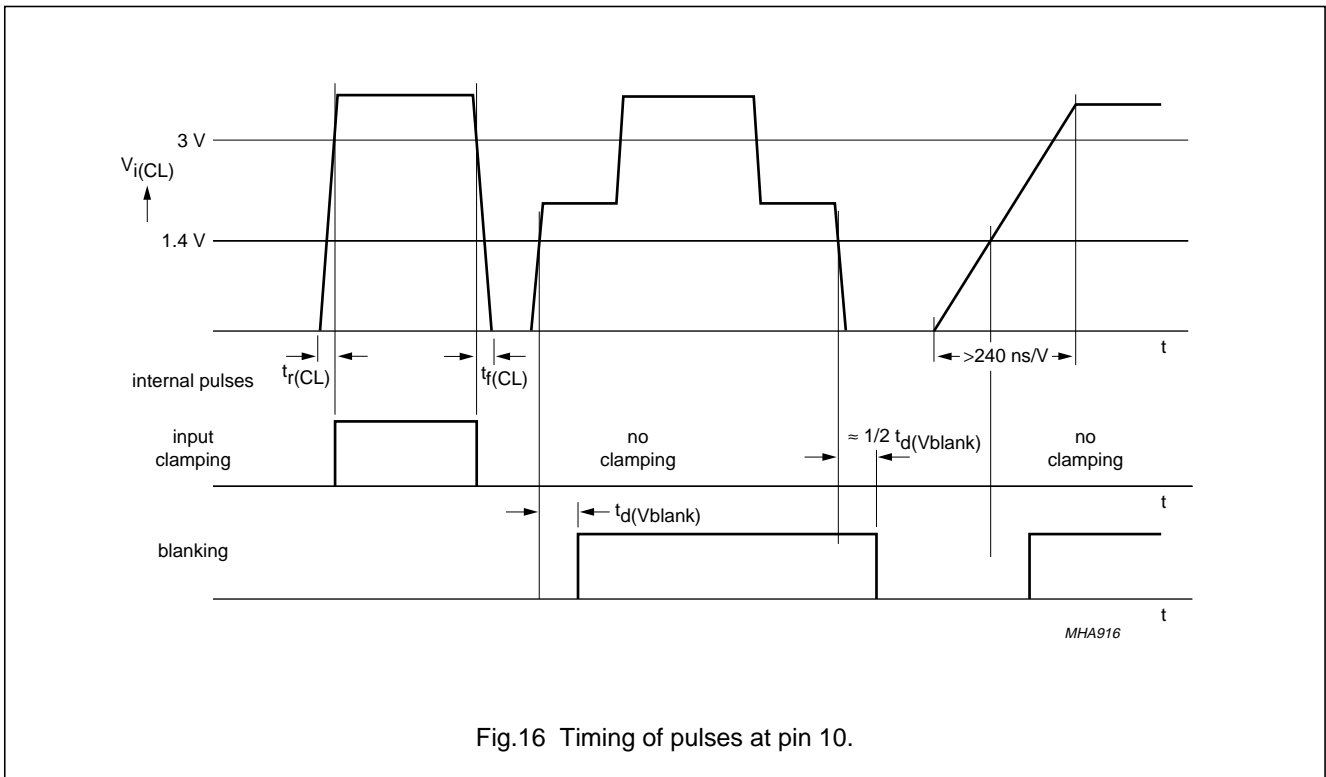

Fig.16 Timing of pulses at pin 10.
17. For  $75 \text{ ns/V} < t_{r(CL)}$ ,  $t_{r(CL)} < 240 \text{ ns/V}$ , generation of internal input clamping and blanking pulse is not defined. Pulses not exceeding the threshold of input clamping (typical 3 V) will be detected as blanking pulse. Timing of pulses at pin 10 see Fig.16.